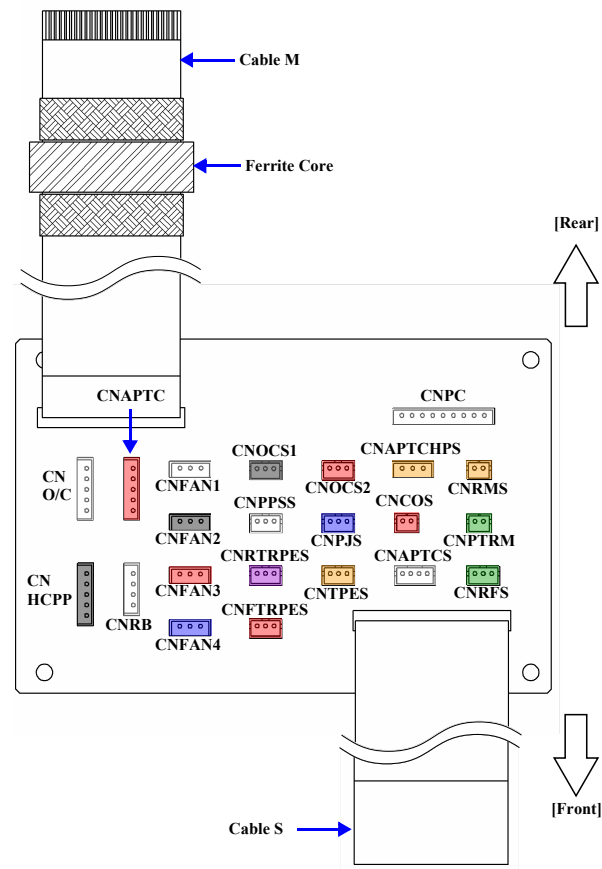

Figure 4-13. SENSOR BOARD UNIT Removal (1)
2. Disconnect all the cables except Cable M and Cable S from the SENSOR BOARD UNIT. See the connector map, Figure 4-13 on page 140.